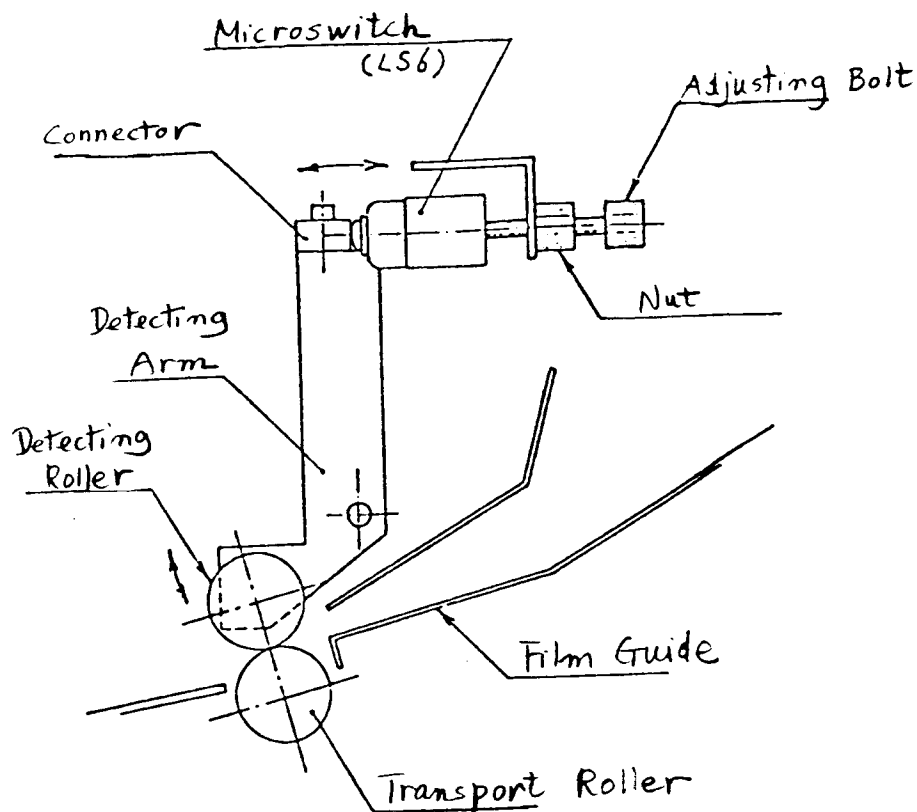

Fig. 8-1
1. Set two sheets of film of 14x17 size between rollers. See Fig. 8-1.